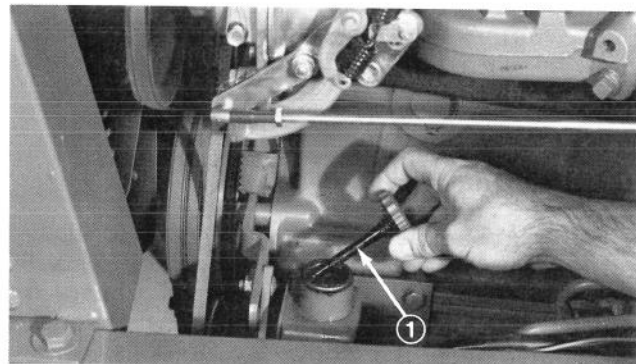
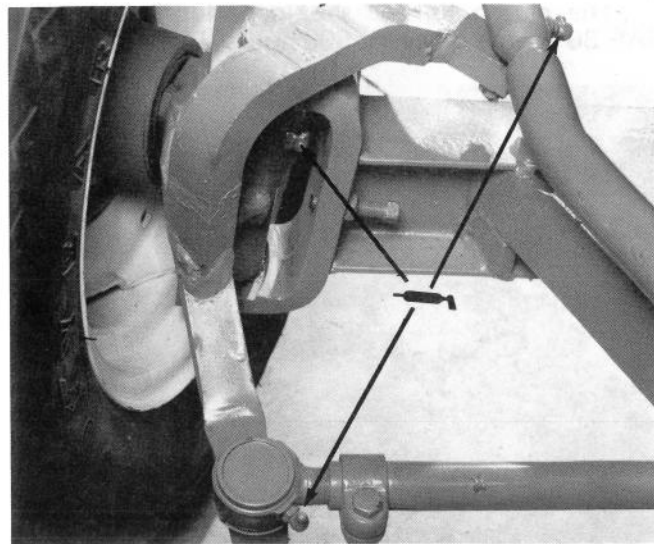
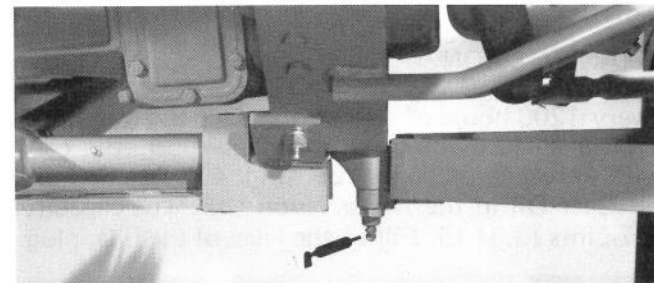
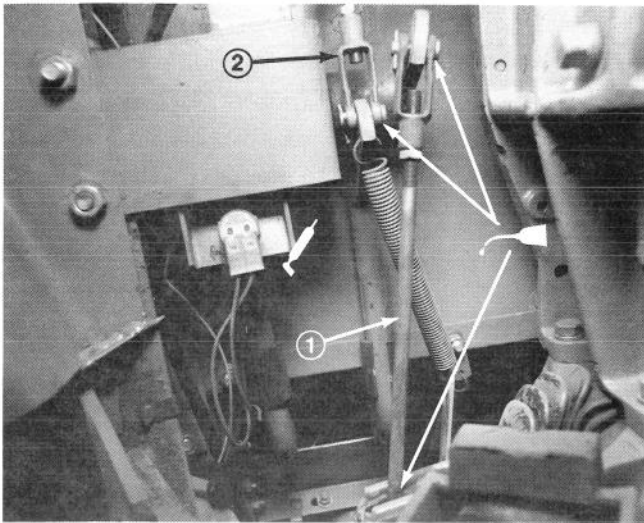

Figure 38
Figure 40
Figure 42
Figure 44
1. Check the fluid level every 200 hours of operation. Clean the area around the filler cap before removing the cap. The full mark is indicated on the dipstick (Fig. 38).
4. The slightest evidence of dirt, sludge or water discovered in the system is an indication the system oil should be drained and replaced. Drain by disconnecting the return line (Fig. 38). Run the engine at idle until the oil is completely drained. Shut the engine off, replace the line and refill the system to the proper level.
1. Use No. 2 Lithium Base Grease on the following lubricating points: Front Axle Pivot (Fig. 38); Front Axle Spindle Bearings, Left Hand and Right Hand (Fig. 40); Left and Right Hand Tie Rod Ends (Fig. 40); Front and Rear Drag Link Tube Ball Sockets (Fig. 40, 41); Wishbone Pivot Point (Fig. 42); Clutch and Brake Pedal Bushings (Fig. 44). Under floor panel on left hand side.
1. The clutch linkage should be lubricated with SAE 30 engine oil every 600 hours (Fig. 44).